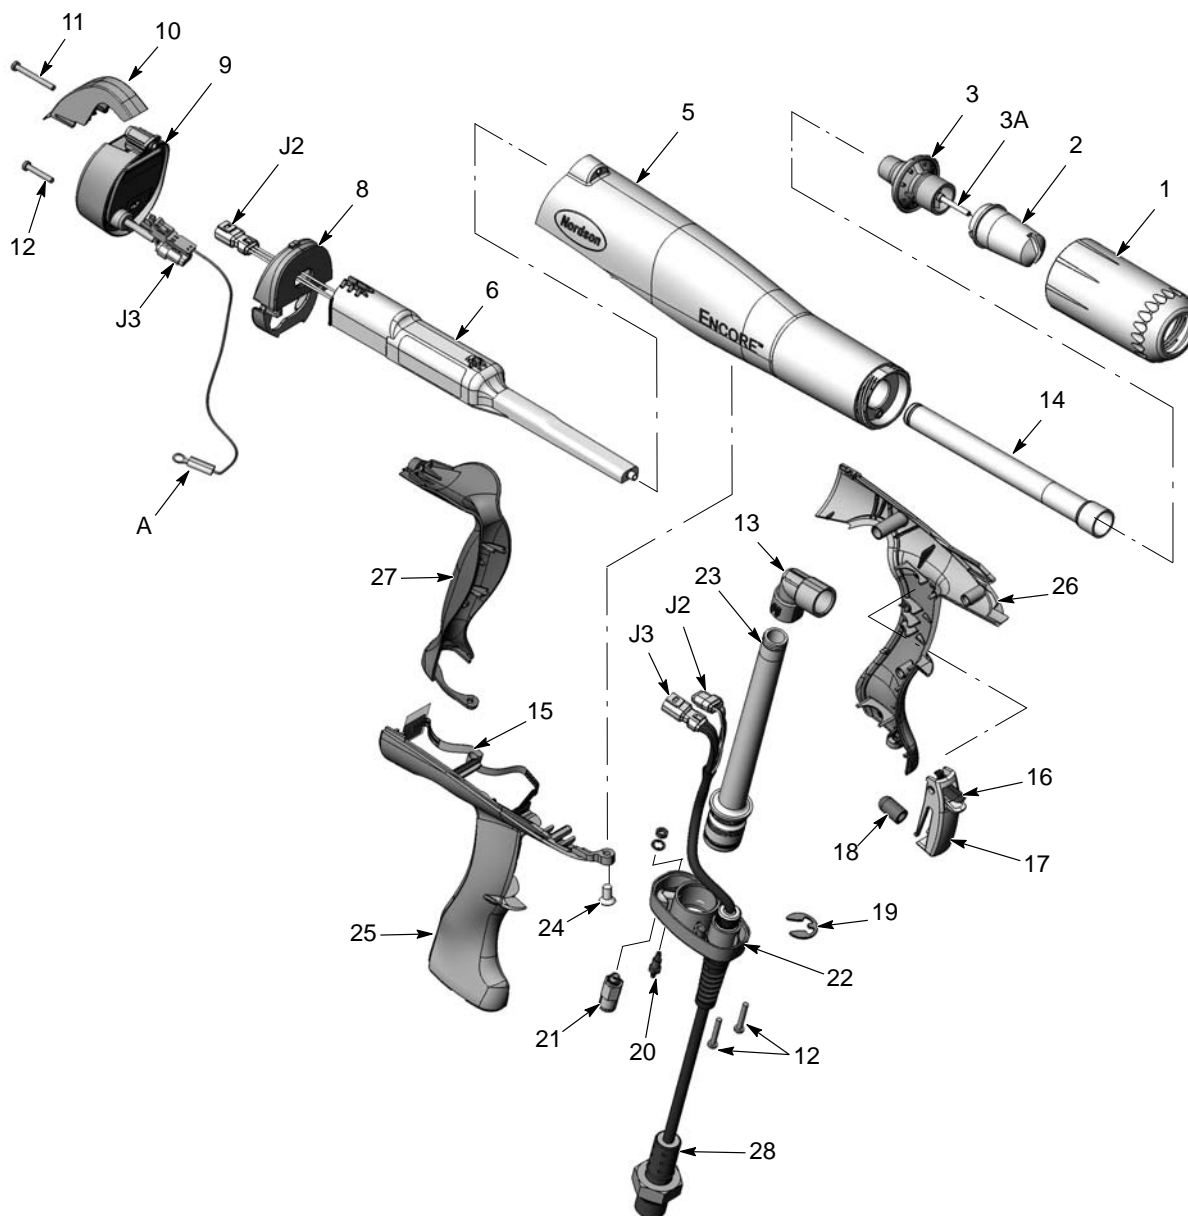
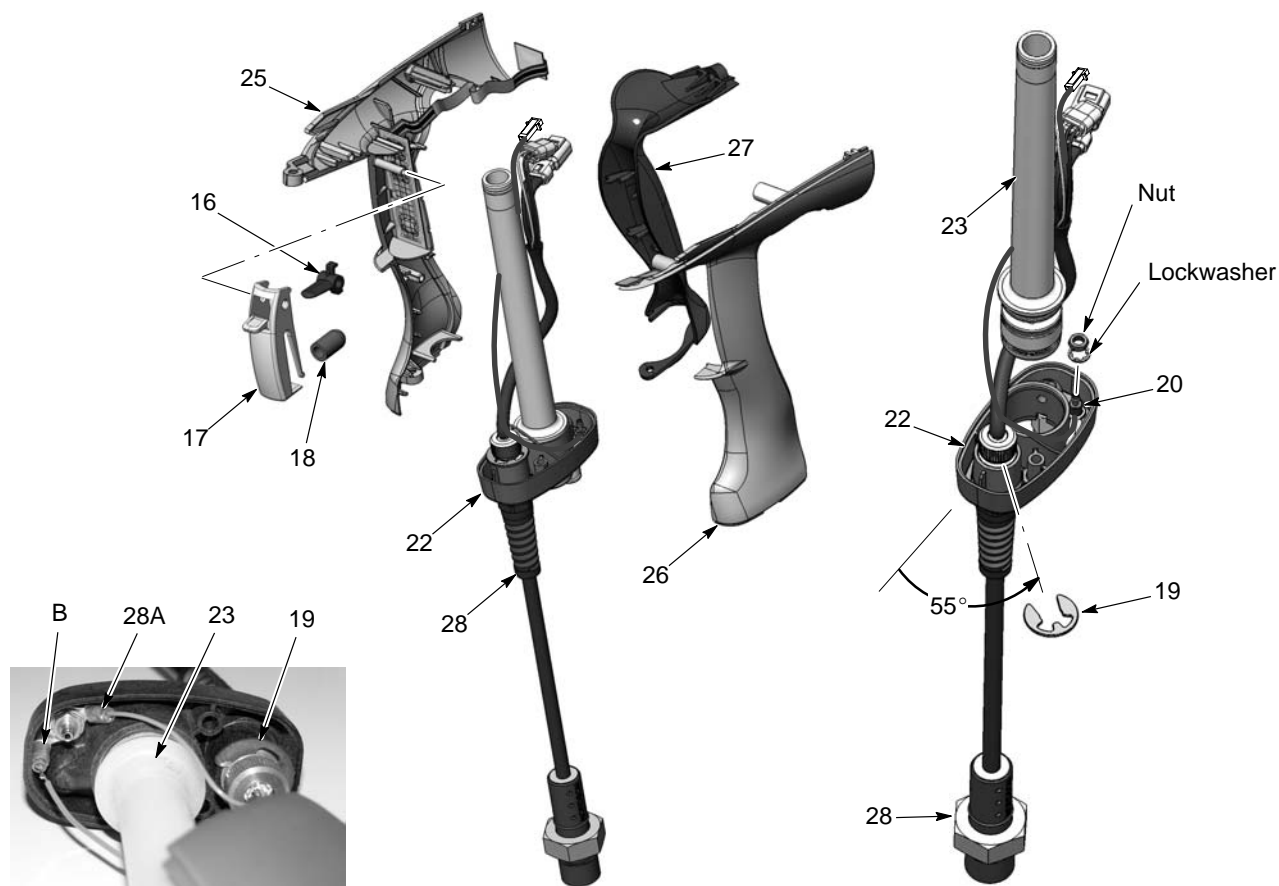
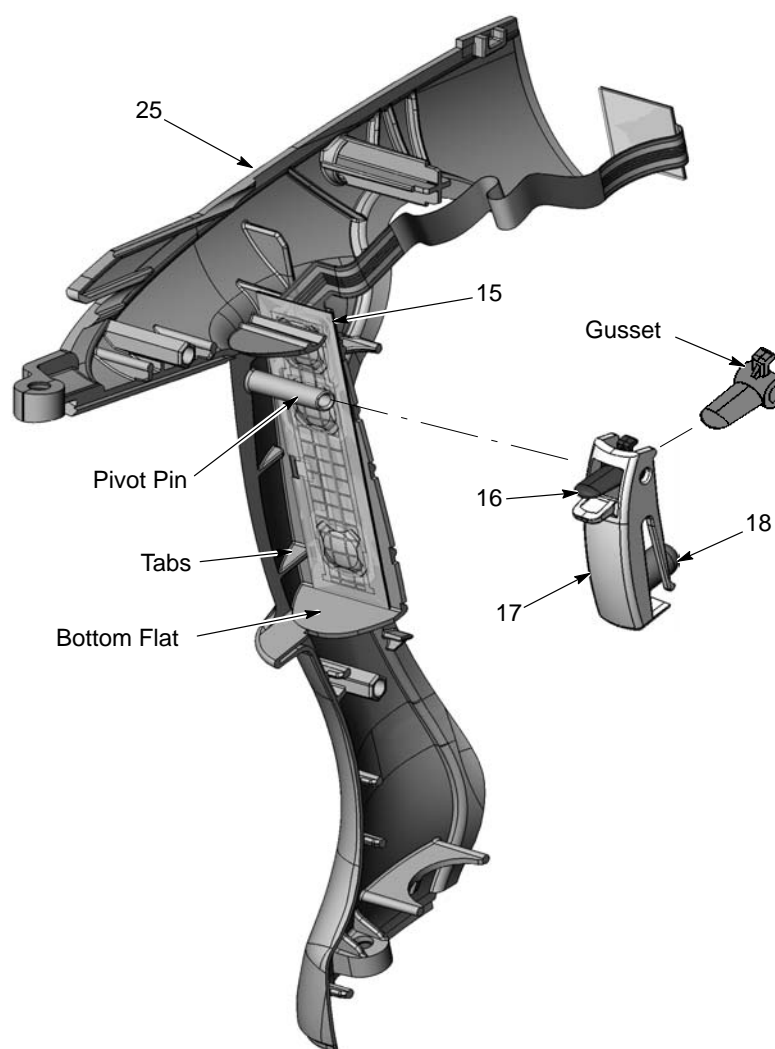

Figure 5-3 Exploded View of Spray Gun (Numbering is same as parts list)
Figure 5-9 Completing Gun Disassembly
Figure 5-10 Trigger Switch and Trigger Mounting
See Figures 5-3, 5-4, and the figures accompanying the disassembly steps.
12. See Figure 5-9. Separate the right and left handles (25, 26).
1. See Figures 5-9 and 5-11. Feed the cable (28) through the handle base (22) and secure it to the base with the retaining ring (19). Position the retaining ring at the angle shown.
**NOTE:** New display modules include a separate ground cable with a connector on the module end and a ring-tong terminal on the other. This cable must be securely connected to the barbed fitting (20).
2. Install the dual barbed fitting (20) into the base and slip the gun cable and display module ground terminals over the fitting. Install the internal-toothed lockwasher and nut on the fitting and tighten the nut.
3. If the check valve (21, Fig. 5-3) was removed, thread it into the base. Do not overtighten the valve.
4. Install the inlet tube with O-rings installed (23) into the handle base (22).
5. See Figure 5-10. If removed, install the trigger switch (15) on the mounting flat of the right handle (25), up against the tabs and bottom flat. Press firmly on the switch to secure it in place.
6. Assemble the actuator (18) on the main trigger (17) boss. Note the orientation of the settings trigger (16) gusset, then insert it into the main trigger. Align the pivot holes in the triggers then slide the triggers over the trigger pivot pin on the right handle half.
10. See Figure 5-9. Hook the ground pad (27) behind the locator tabs on the rear of the handles and rotate the ground pad into position against the handle assembly.